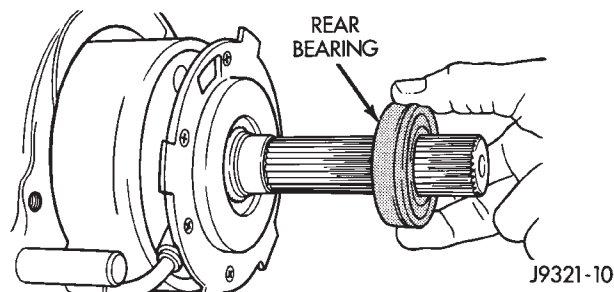

Fig. 61 Rear Bearing Installation
(38) Insert oil pickup tube in pump (Fig. 61).
(39) Install rear bearing on mainshaft (Fig. 61). Locating ring groove in bearing goes toward end of mainshaft.